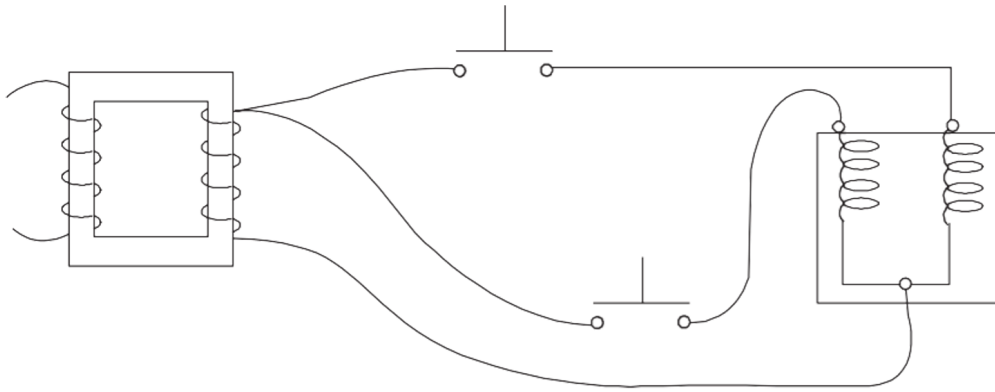

Figure 3 Wiring diagram (BC Industry Training Authority, 2019). CC BY-NC-SA 4.0
- **Figure 3** Toaster, by Nick Carson on en.wikipedia is used under the CC BY 3.0 license.
A **wiring diagram** shows the relative layout of the circuit components using the appropriate symbols and the wire connections (Figure 3). Although a wiring diagram is easy to use for wiring an installation, it is sometimes difficult to understand circuit operation because the components are shown as symbols. It is not as applicable for troubleshooting.